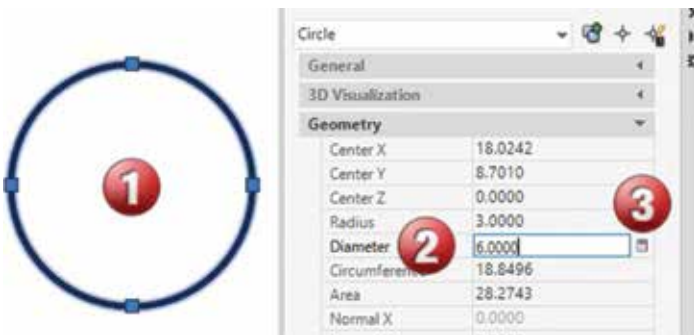

Figure 9
- Draw a circle and give it a diameter of 6 units (ft.) We will be using 1 unit to represent 1 foot. Type CTRL+1 and open the Properties palette and pull down the Geometry section as shown in Figure 9.